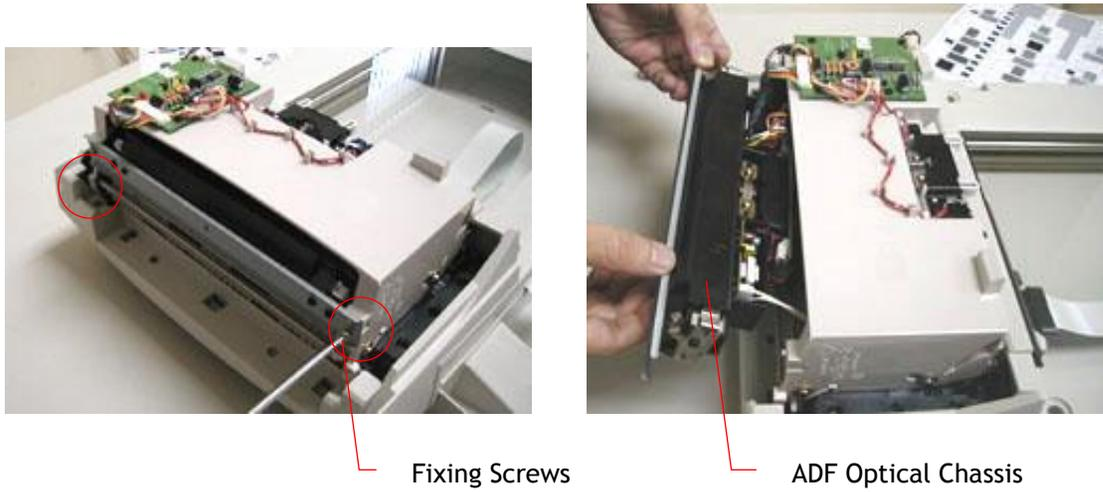

Figure 4.16a Removing the ADF Optical Chassis (1)
2. Remove the ADF fixing screws to pull the ADF optical chassis as shown in Figure 4.16a.